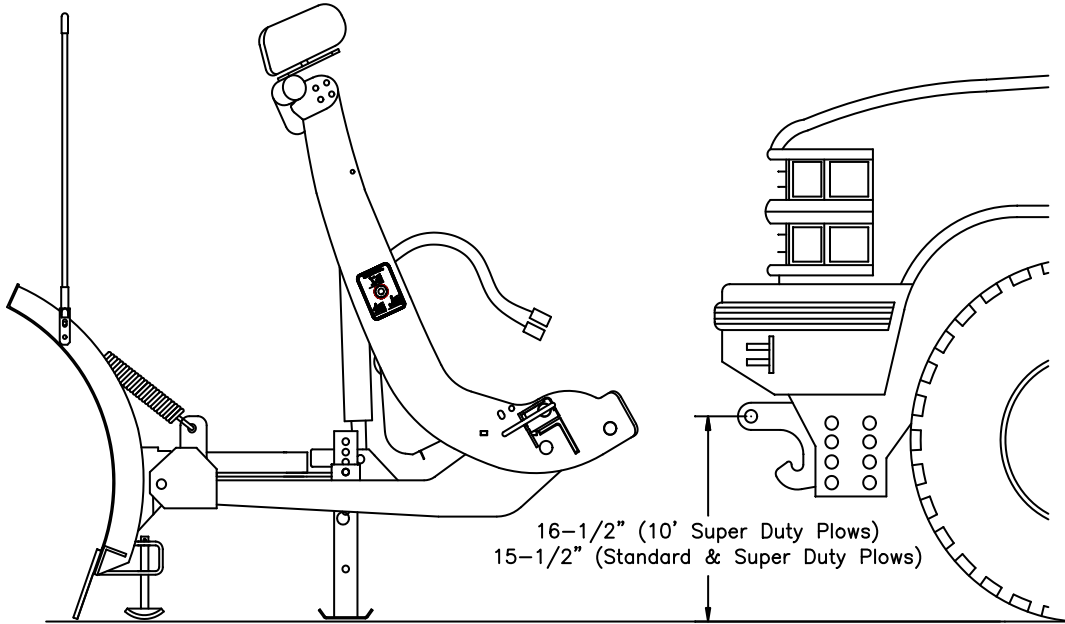

Figure 2
2. Insert 5/8" Washer Bar (103) into the truck frame through the front of the frame horn. Align the hole in the washer with the frame slot. Drop 5/8" Bolt Bar (102) down through 5/8" Washer Bar (103) and through the frame slot. Repeat on the other frame rail.
3. Assemble Push Beam Support Plate (62A & 62B) to the bottom of the frame rail. Begin by assembling 5/8" Split Lock Washer (F) and 5/8"-11 Finished Nut (E) to 5/8" Bolt Bar installed in step 2. Next, replace the tow hook and tow hook bolts removed in step 1. Leave all hardware finger tight. Repeat on the other frame rail.
5. Install 1/2" Bolt Bar (101) through one of the holes in the outside frame wall and install through the drilled hole in the inside frame wall for Push Beam Support Plate (62A & 62B). Assemble 1/2" Split Lock Washer (D) and 1/2"-13 Finished Nut (C) to 1/2" Bolt Bar (101). Leave hardware finger tight. Repeat on the second drilled hole and on the other frame rail.
6. Assemble Push Beam (62) to Push Beam Support Plates (62A & 62B) using 1/2"-13 x 1-1/2" Bolts (A) and 1/2"-13 Lock Nuts (B). Leave hardware finger tight. The hole in the Push Beam (62) receiver hooks should be at 15-1/2" from the ground (See Figure 2). The Plastic valance on the bottom of the bumper may need to be removed or notched in order to achieve this.
7. Assemble Angle Bracket (75) to the tabs on the back of Push Beam (62) using 1/2"-13 1-1/2" (A) and 1/2"-13 lock Nuts (B). Be sure that Angle Bracket (75) is level and matches the contour of the cross-member on the bottom and on the forward angled face.
8. Drill four holes in the cross member for Angle Bracket (75). Drill for ½” bolts.
9. Install ½” Bolt Bar (101) through the large hole in the center of the cross member and assemble to one of the holes drilled in step 8. Assemble 1/2” Split Lock Washer (D) and ½”-13 Finished Nut (C) to ½” Bolt Bar. Repeat on all four drilled holes.
10. Tighten all hardware beginning with Push Beam Support Plates (62A & 62B). Continue with Angle Bracket (75) hardware and finally Push Beam (62) hardware.